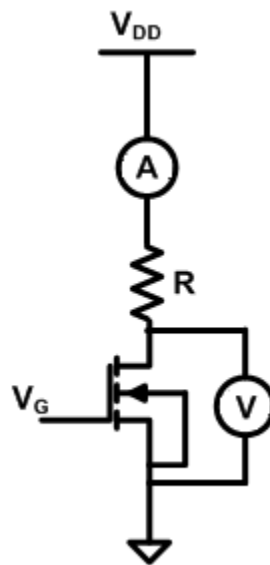

Fig. 14.3
- 1- Make the circuit shown in fig 14.3 on bread-board.